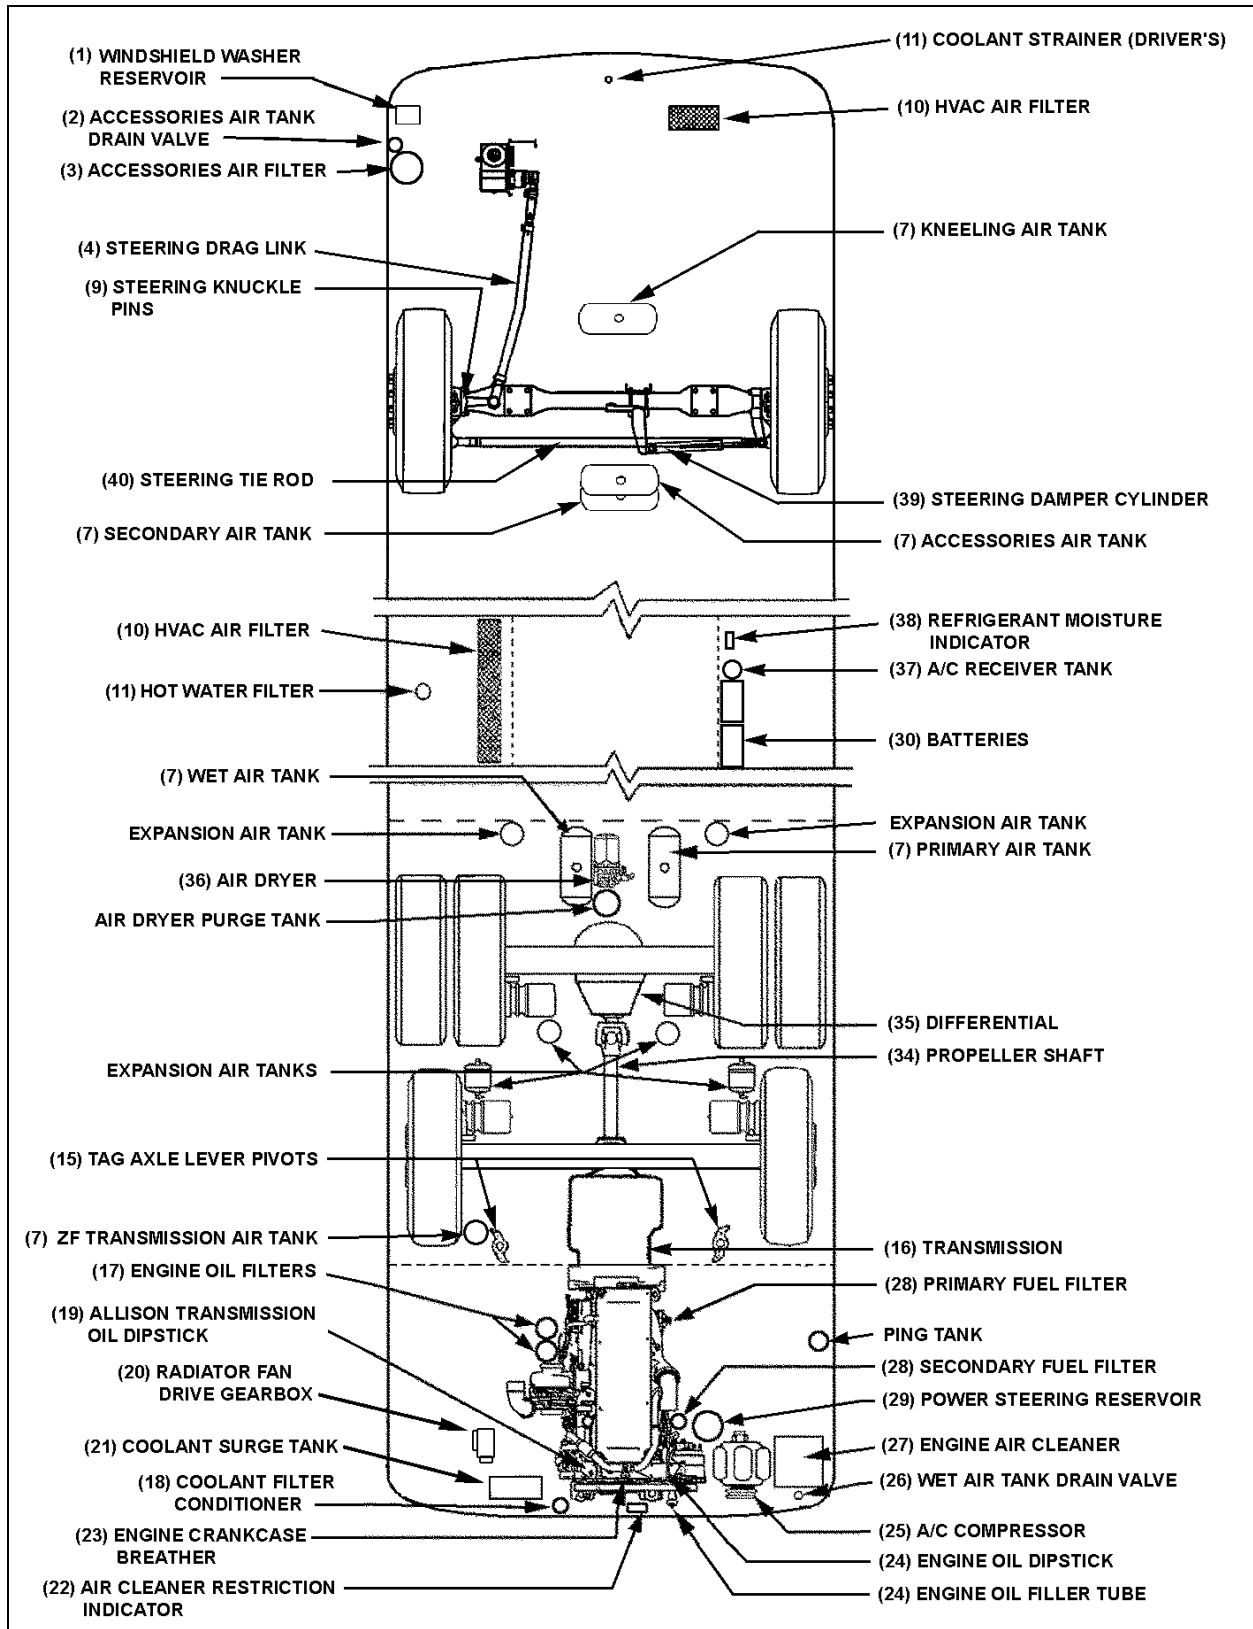

FIGURE 2: LUBRICATION AND SERVICING POINTS ON I-BEAM AXLE FRONT SUSPENSION VEHICLES
- FIGURE 2: LUBRICATION AND SERVICING POINTS ON I-BEAM AXLE FRONT SUSPENSION VEHICLES 5